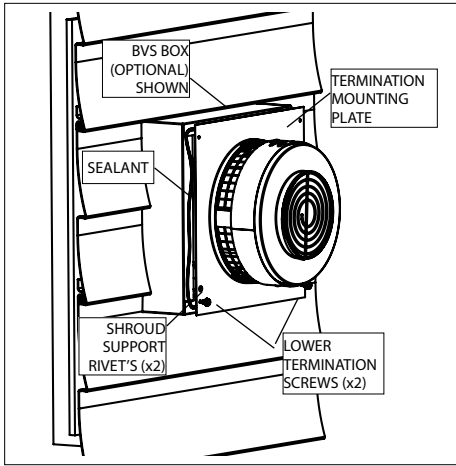
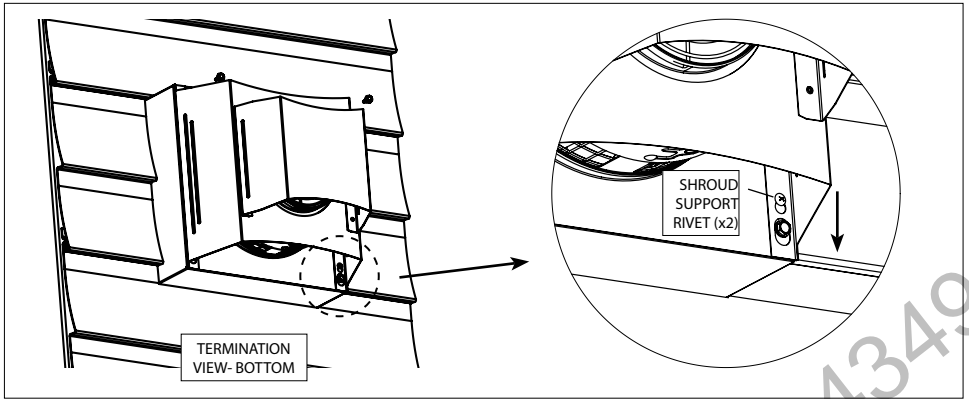

Figure 4- Termination Body
Figure 6- Termination Shroud
7. Install termination body (4x6 or 5x8) to either the framed opening of the exterior wall, the outside wall thimble plate, or to the vinyl siding standoff box, depending on your installation requirements (**Fig.4**). Ensure orientation, ("Top" label should be up, shroud support rivets should be down- **Fig.6**). Affix termination body initially only with the lower two screws (closest to the support rivets-**Fig.4,6**), use included hardware. **It is important the termination body is level to**
8. Once the termination body is in place, install the termination shroud to the termination mounting plate (**Fig.6**). Hang the shroud on the shroud support rivets (**Fig.6**), press the shroud down to “engage” the rivets into place. Align the upper shroud holes with the upper termination mounting plate